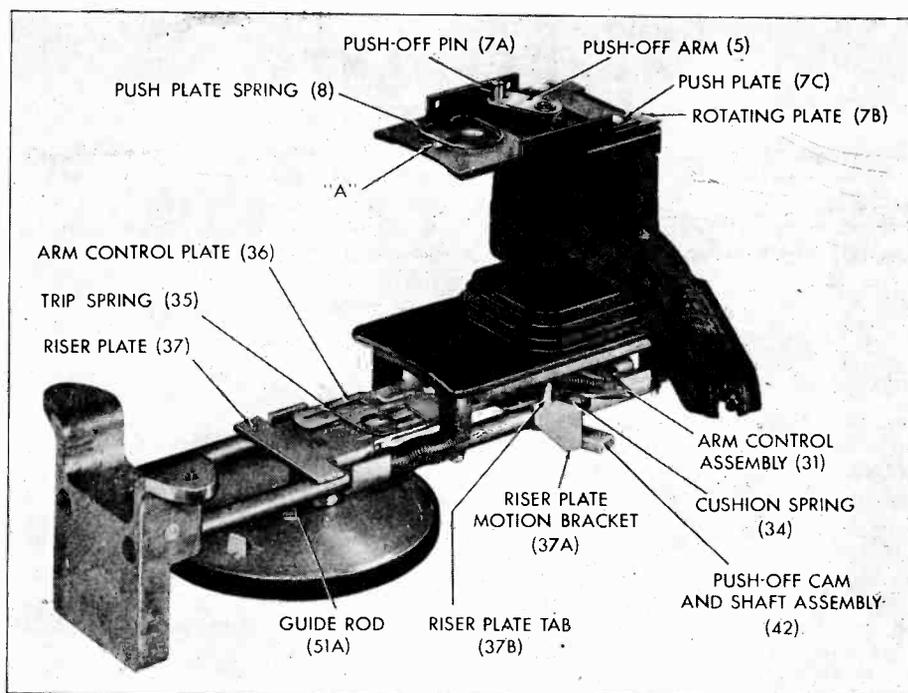

FIGURE 5.
(b) Manually slide the push plate (7C) over the rotating plate (7B) until a piece of metal $\frac{3}{32}$ inch in diameter or a #8-32 Bristol wrench can be inserted into the opening at the front of the center slot in the push plate (see "A", figure 5). If the 12-inch push-off is faulty with this setting, try using a $\frac{1}{16}$ " piece of metal or a #6-32 Bristol wrench.
(b) Cushion spring (34) has slipped out of position and is on wrong side of riser plate tab (37B). Re-position spring. (See figure 5.)
Cushion spring (34) has slipped out of position and is on wrong side of riser plate tab (37B). Re-position spring. (See figure 5.)